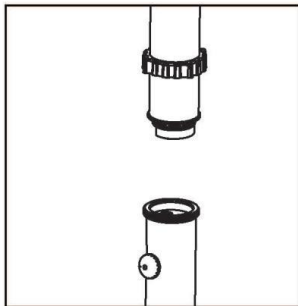

FIGURE 2
3. For the assembly of the upper and lower parts of the solar shower, see **Figure 2**. **NOTE:** The fit between the upper and lower tubes is very tight. It may be necessary to pull down on the upper tube while wiggling from side-to-side to make the connection is complete.